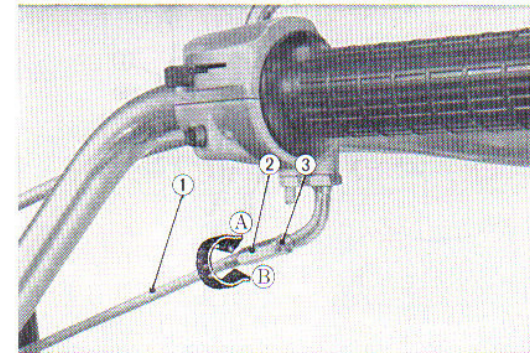

Fig. 4.8 Throttle cable play adjustment
- ① Throttle cable
- ② Throttle cable adjuster
- ③ Lock nut
2. Connect the throttle cable to the throttle grip and adjust the play with the nut ②. (Fig. 4.8)